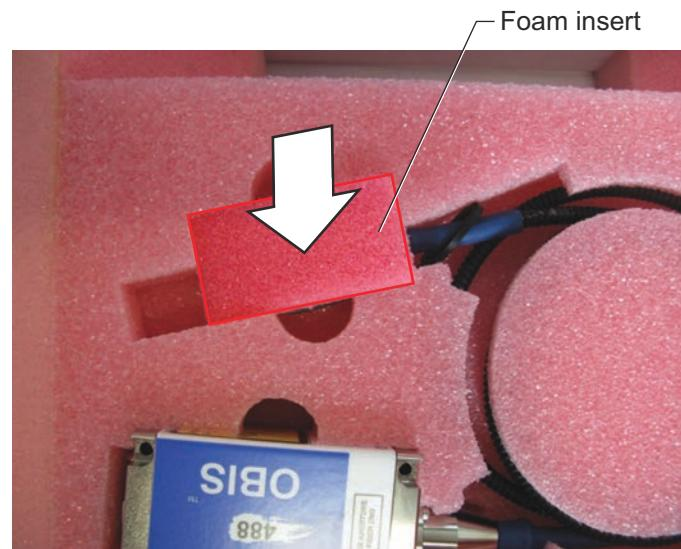

Figure 9-8. Fiber End Secured in Packaging Foam
5. Place the small foam insert (removed in Step 3, above) over the fiber end to secure it for shipping, as shown in Figure 9-8.